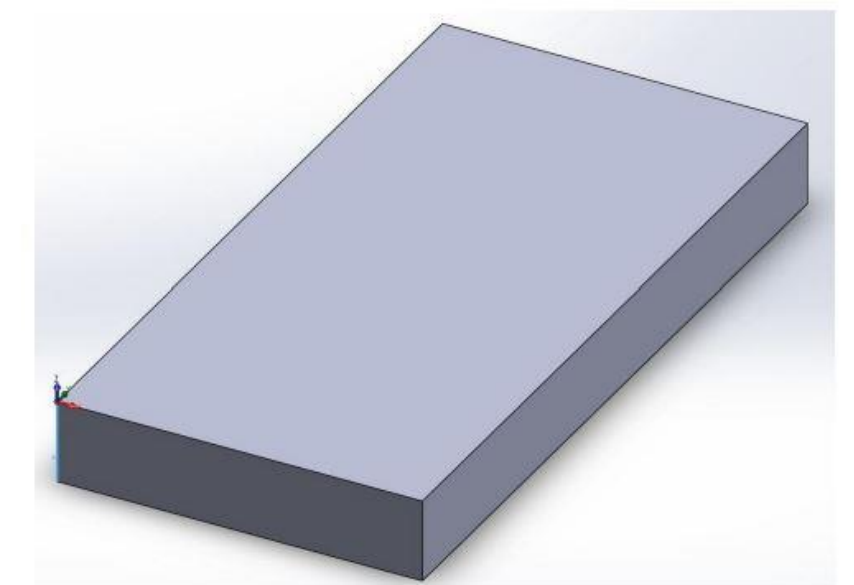

Figure 4: Adding a Reference Coordinate System
2. Begin by inserting a reference geometry coordinate system on the SolidWorks part. This coordinate system will represent the 0,0,0 (start position) of the CNC router. This coordinate system should be inserted such that the positive Z axis is vertical, parallel with the direction of the cutting bit; The positive X axis is to the right; and the positive Y axis is up, along the length of the part. See Figure 4.